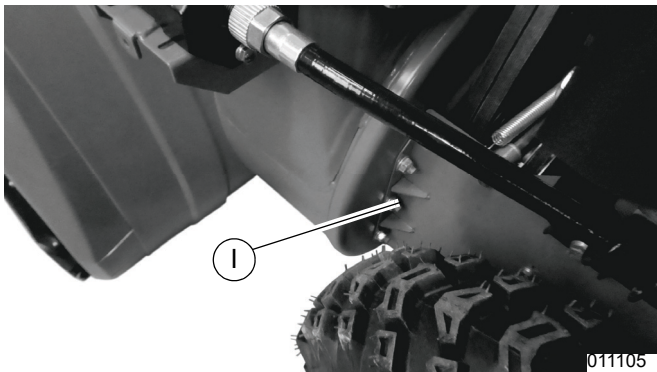

Figure 4-10. Loosening Left Side Transmission Box Locknuts
6. See Figure 4-10. Loosen, but do NOT remove, the three locknuts (I) on left side of transmission box using a 13mm wrench.